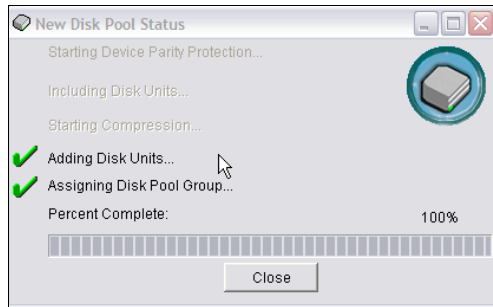

Figure 11-23 New Disk Pool Status
13. Respond to any message windows that appear. After you take action on any messages, the New Disk Pool Status window shown in Figure 11-23 appears and shows progress.